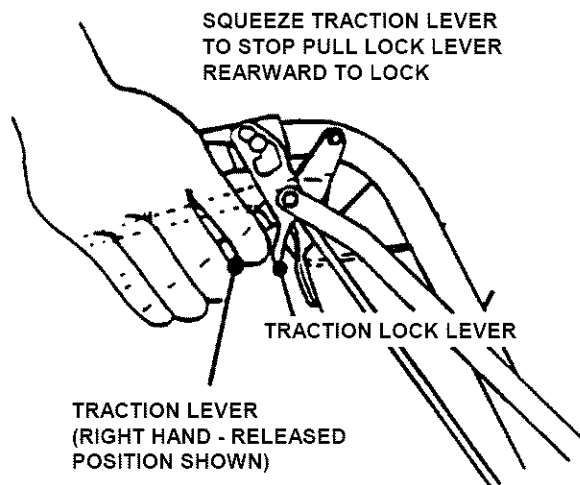

FIGURE 3.9
- Move Transmission Shift Lever to **REVERSE (R)** position.
- PISTOL GRIP - TO STOP MACHINE**, Simultaneously squeeze both Traction Levers firmly against the handle while pulling the Traction Lock Lever rearward with index finger until latched. See Figure 3.9.